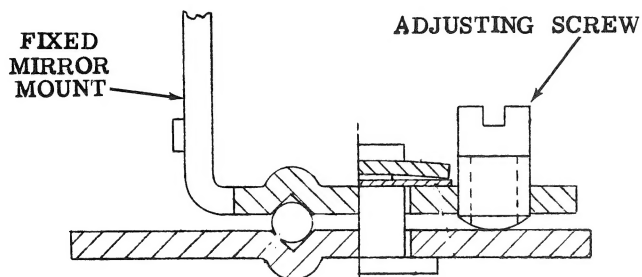

Figure 8. DOUBLE IMAGE ADJUSTMENT
c. To set rangefinder infinity, sight the rangefinder on a target of 500 feet or more. Move the yoke forward about 1/8 inch and lock the yoke with lever on front right corner. Adjust the moveable mirror shaft by loosening the 3/16 inch hexagonal rangefinder arm screw. Turn the mirror mount while observing the movable image in the fixed mirror. When the images are aligned, tighten the hexhead screw. Adjust double vision by turning the set screw on the fixed mirror mount (figure 8). Observe infinity and readjust if necessary. Remove master cam.